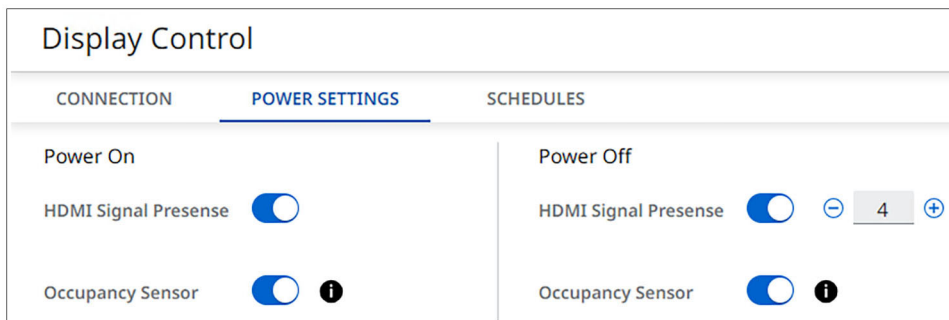

Figure 12. Power Settings Panel
- **Power Settings tab** — Click this tab to display the Power Settings panel to configure the WC Pro 160 to turn the display on and off based on the room occupancy or HDMI signal presence (see figure 12).